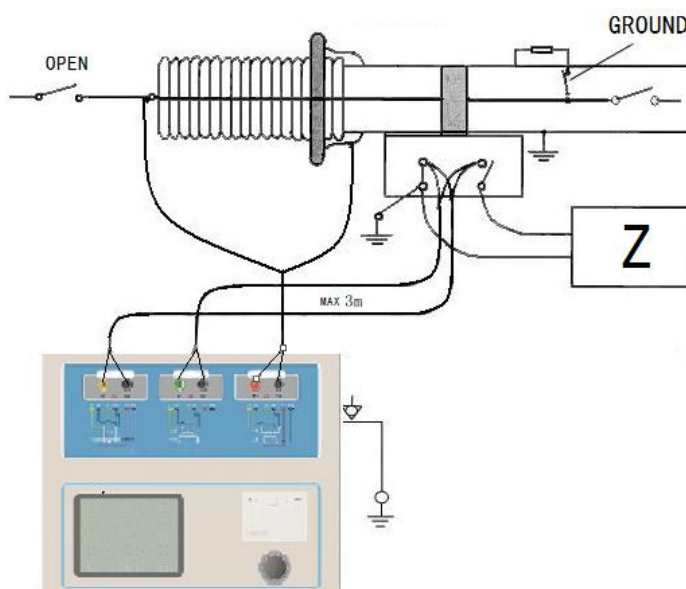

Figure D.4 HZCT-100B on GIS (SF6) switch on the test at the time of CT Connection
4. HZCT-100B in the GIS (SF6) switch on the wiring of the CT test mode as shown in Figure D.4. NOTE: Disconnect all connected with the bus switch, grounding switch closed.